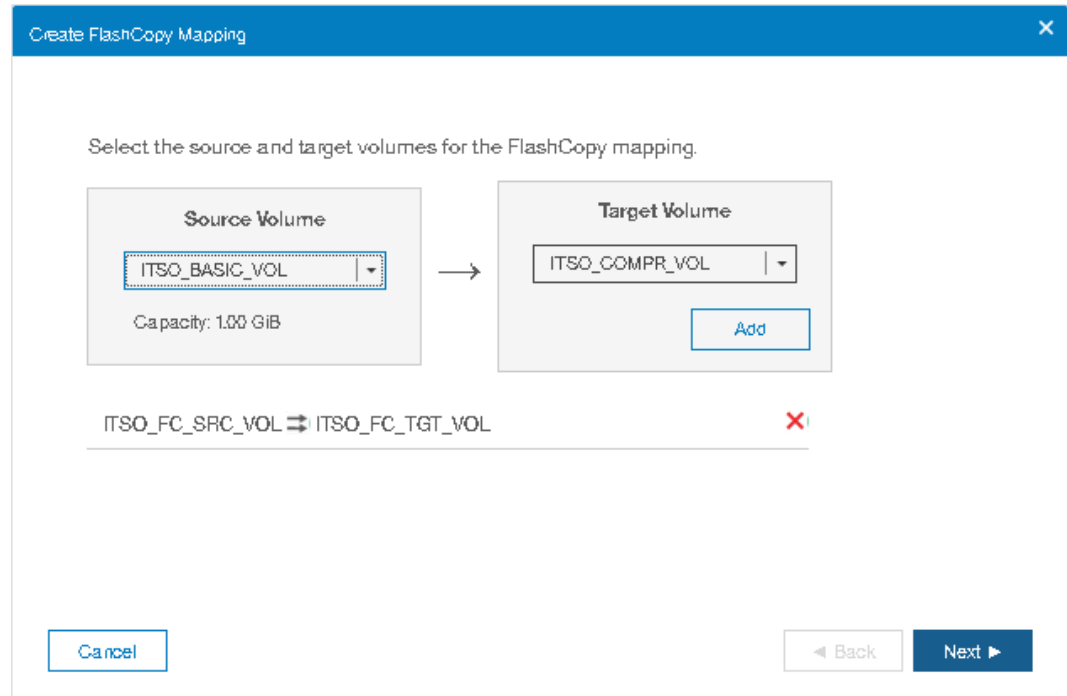

Figure 10-46 Create FlashCopy Mapping with the relationships that were created
7. Click **Next** after all of the relationships that you want to create are shown (Figure 10-46).